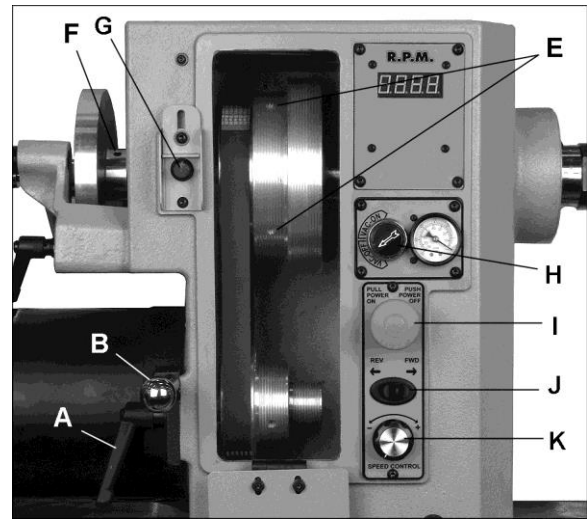

Figure 33
1. Push spindle lock button (see G, Figure 33), and rotate spindle slightly until button goes entirely into recess. Slide plate down over button.
The motor and spindle sheaves are aligned with each other at the factory, but if any service is performed that affects their alignment it is very important that they be realigned. To realign them, loosen the two set screws on the spindle sheave (E, Figure 33) with a hex key, and slide spindle sheave into proper position. Re-tighten set screws.
See Figure 33.
7. If replacing spindle sheave, loosen two set screws (E, Figure 33), and slide sheave off spindle.
10. Reinstall handwheel and tighten set screws (F, Figure 33).
11. Align new sheave (see *section 9.14, "Sheave and Belt Alignment"*) then tighten two set screws (E, Figure 33) securely on sheave.
See Figures 33 and 34.